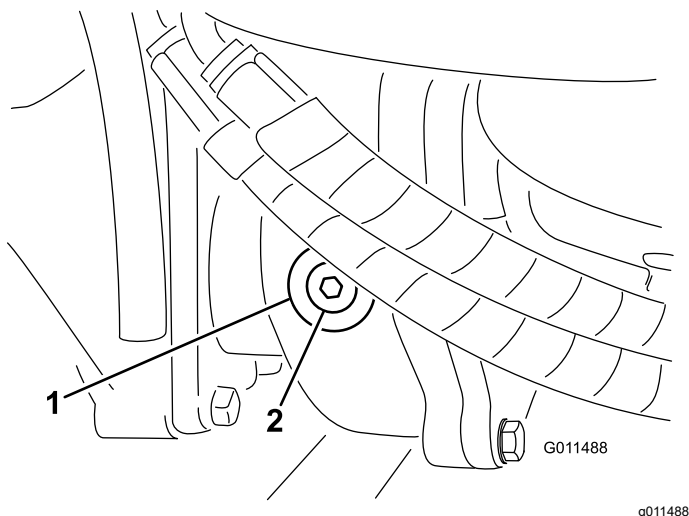

Figure 69
2. Remove the check/fill plug from the left side of the gear box and ensure that lubricant is up to the bottom of the hole (Figure 69).